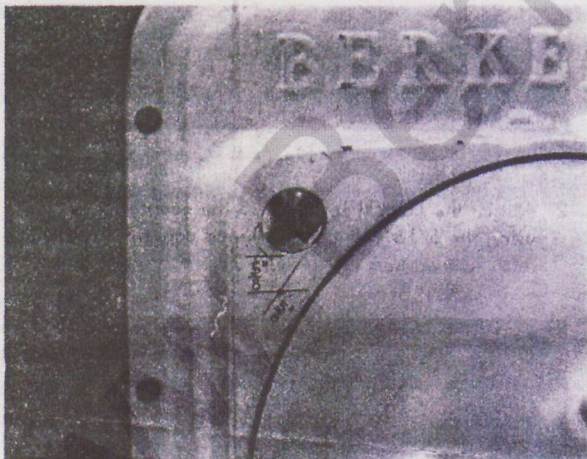

Figure 4
- Remove rear adjusting nut from steering tube and pull steerable cable assembly through transom adapter into boat. Layout and drill a 1/4" hole in transom adapter for Jetovator control cable as shown in Figure 4.